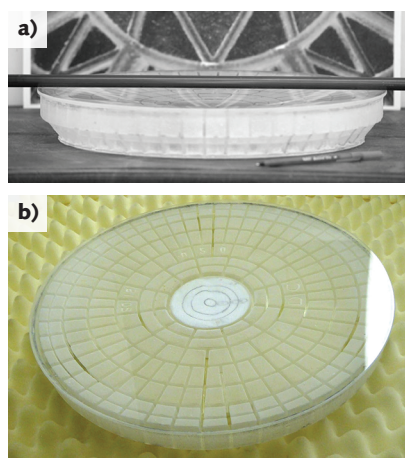

FIGURE 1. A bubble-free, double-conical, polished lightweight mirror has a 396 mm CA (a), and a view from the side shows the rib design (b).
We recently finished a borosilicate bubble-free lightweight mirror with a 424 mm physical outside diameter (OD) and a clear aperture (CA) of 396 mm. The profile of the mirror is a mild double-conical with back flanges and has an edge height of 63.5 mm. Over the CA, the aspect ratio is 6.2:1, yet the mirror weighs only 4.32 kg. The mirror is rather steep at $f/1.376$ over the CA (see Fig. 1). The mirror has a 3-mm-thick face—40% thinner than previous mirrors we have produced in this size. It was finished with no detectable print-through and to a very smooth finish